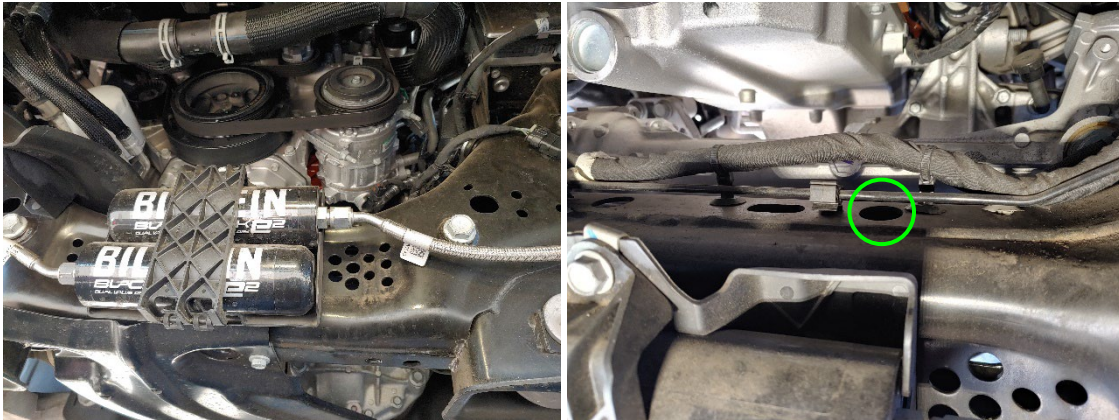
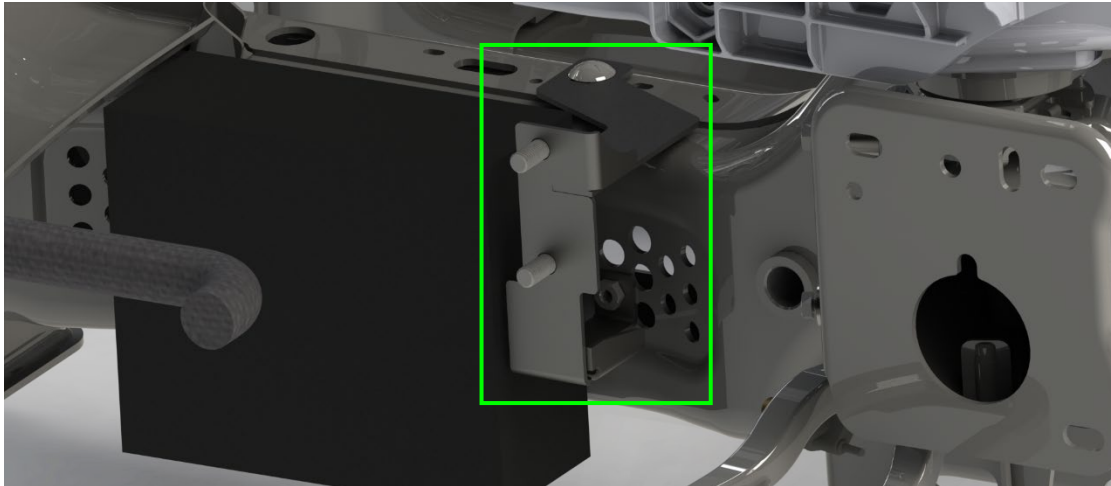

Figure 22- Primary Crossmember (Left) & Top View of Crossmember (Right)
Figure 23- Tank Support Bracket Installed with Carriage Bolt
- b. The bracket should be placed over the highlighted hole (Ref. Figure 22 Right) on top of the crossmember and sit next to the mounted shock reservoirs (Ref. Figure 23).